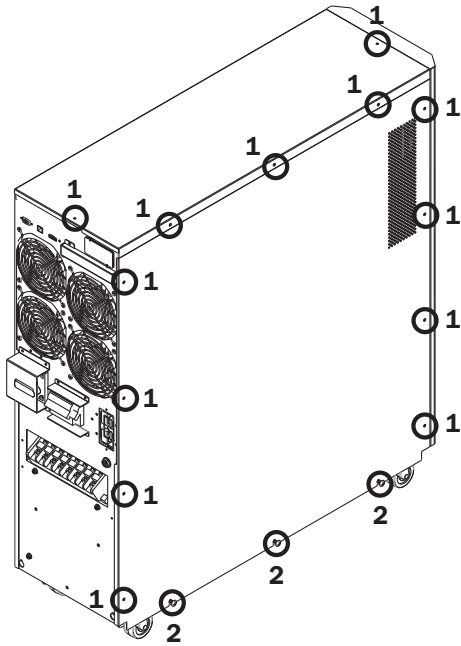

Figure 3-1
- 1) Remove all screws labeled #1; loosen all screws labeled #2 (Figure 3-1).